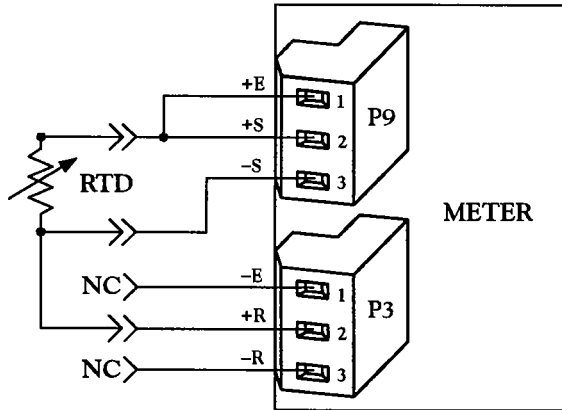

Figure 7-3. 3-Wire RTD
1. Connect the RTD to P3 and P9 connectors. Refer to Figure 7-3.
Figure 7-3 shows the input connections and input-connector jumper needed for 3-wire RTD. This (most popular) connection works best with RTD/Ohms leads which are closely equal in resistance. The meter measures the RTD plus upper and lower lead drop voltage and then subtracts twice the measured drop in the lower supply current lead, producing excellent lead-resistance cancellation for balanced measurements.